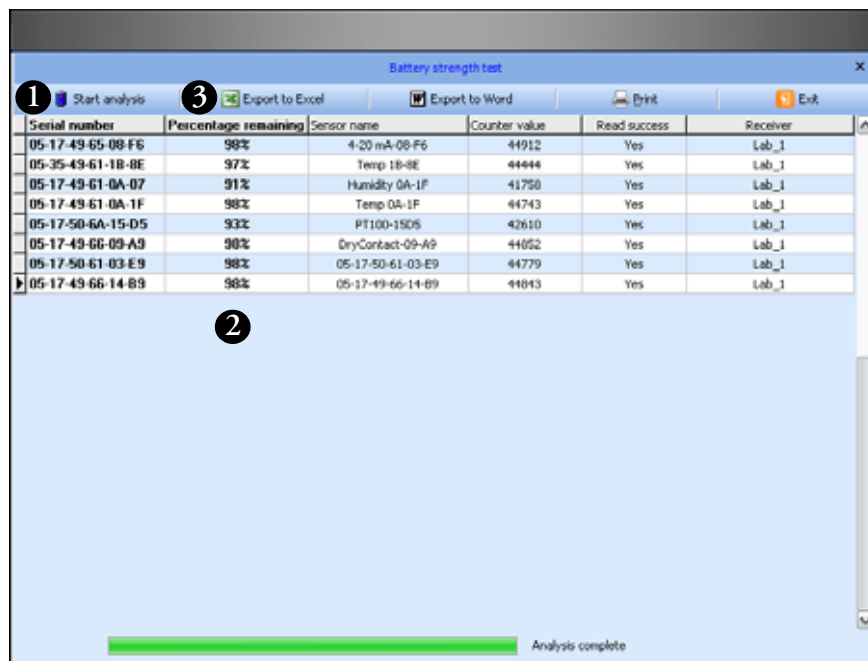

Figure 98. Checking end-point module batteries
2. Click on Start analysis (#1 in Figure 98) to begin testing.